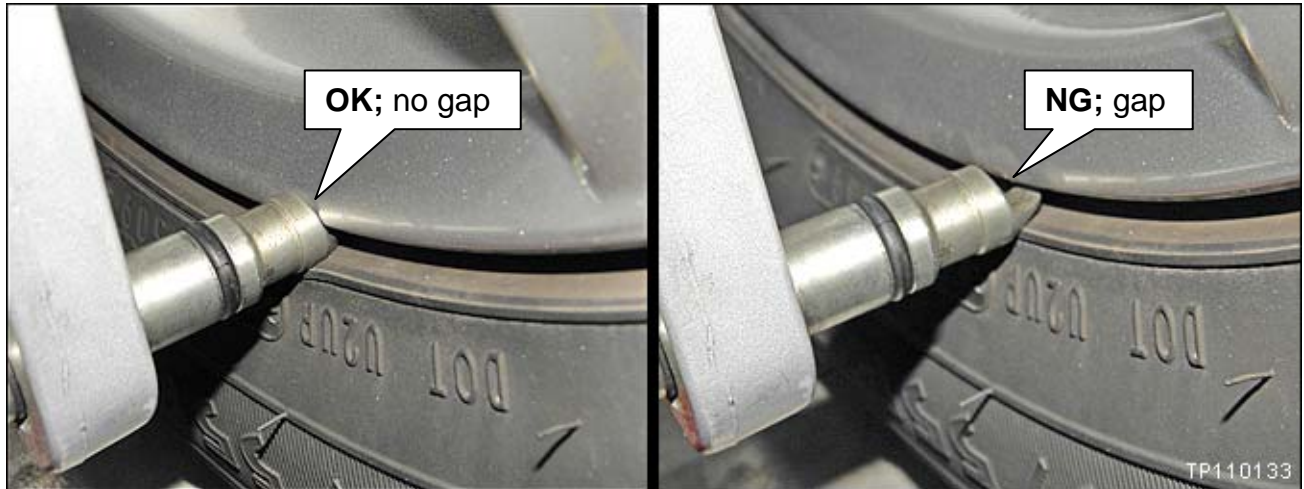

Figure 13
- Claws must be flush against the wheel as shown in Figure 13.